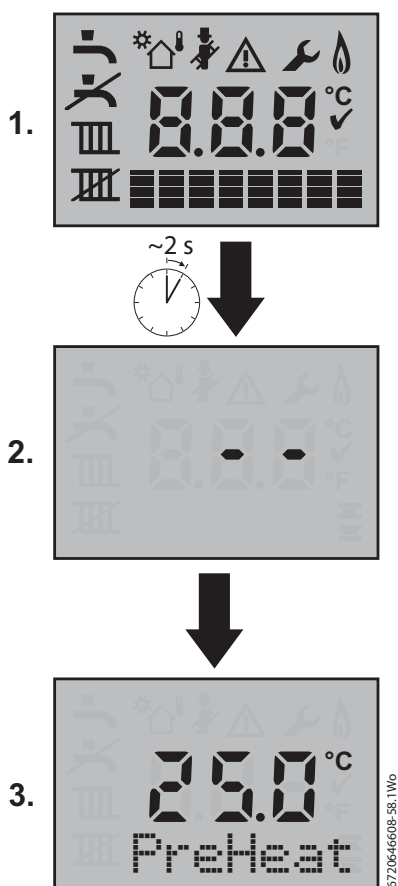

Fig. 62 Boiler start up screen
- ▶ Turn on the mains power supply, initially the “Boiler start up screens” will be displayed (refer to figure 62).